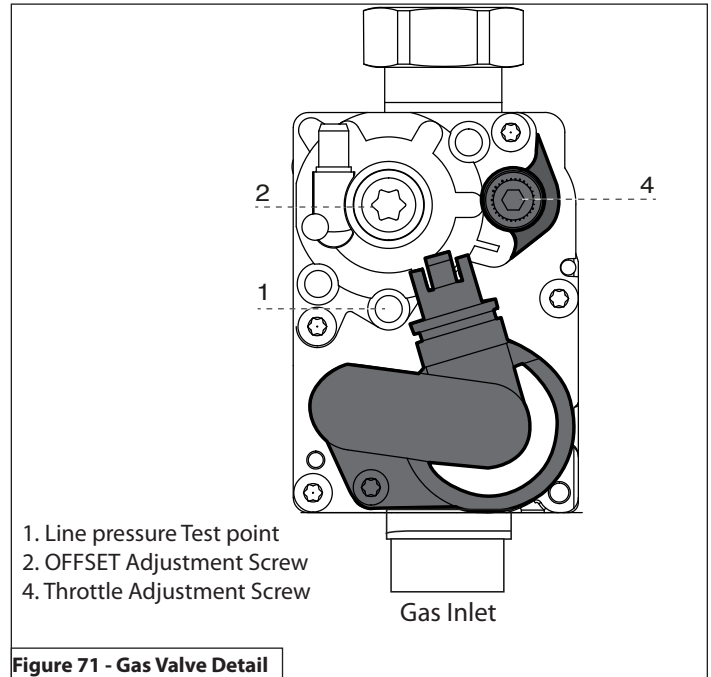

Figure 71 - Gas Valve Detail
**NOTE:** Refer to Figure 71 when checking gas pressure. Loosen the bolts before checking the gas inlet pressure.